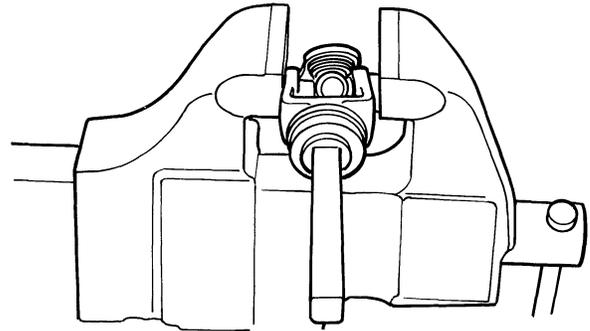

Figure 10
- Place the yoke in a large vise with the jaws tight against the bearing cup. Slowly tighten the vise while moving the cross to assure it moves into the bearing cup correctly, as shown in Figure 10. Repeat this procedure for the other bearing cup.